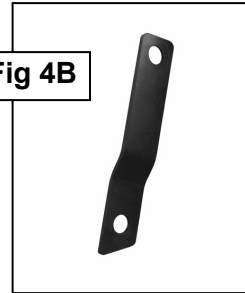

Fig 4B
4. Next, select the driver side Support Bracket, (**Figure 4A**). Bolt the Support Bracket to the upper hole in the Mounting Bracket with (1) 12mm x 40mm Hex Bolt, (1) 12mm Flat Washer and (1) 12mm Lock Washer inserted through the Support Bracket, the upper hole in the Mounting Bracket, crossmember and into the upper hole in the Nut Plate, (**Figure 4B**). Snug but do not tighten the hardware at this time.